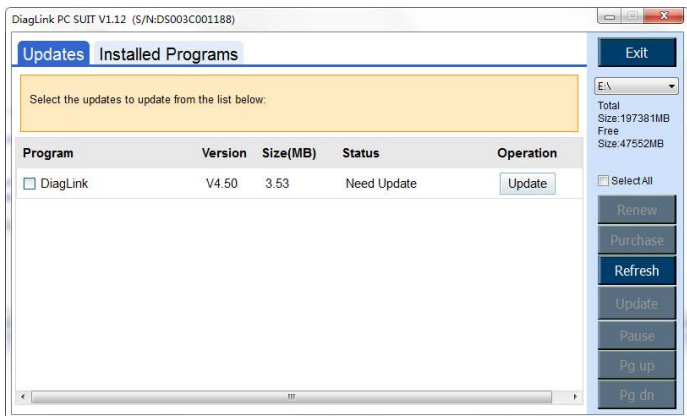

Figure 10.6
- 1) You will come into the Update window after successful registration. First install the management program by click **Update** button (Figure 10.6).